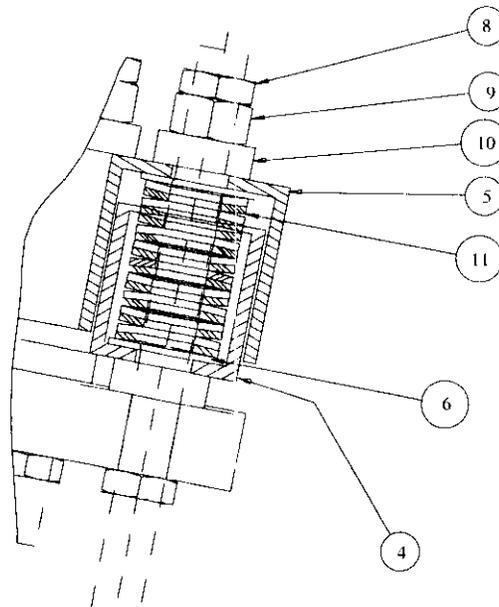

**Figure 1.24** A suggested tightening order for the 20 Conflat bolts.
- 1.24** Use a 5/16 12-point socket to tighten the 20 Conflat bolts. The tightening must be made gradually in 1/4-1/2 turn increments to a final torque of 15 ft-lbf. A suggested tightening order is given by Fig. 1.24.